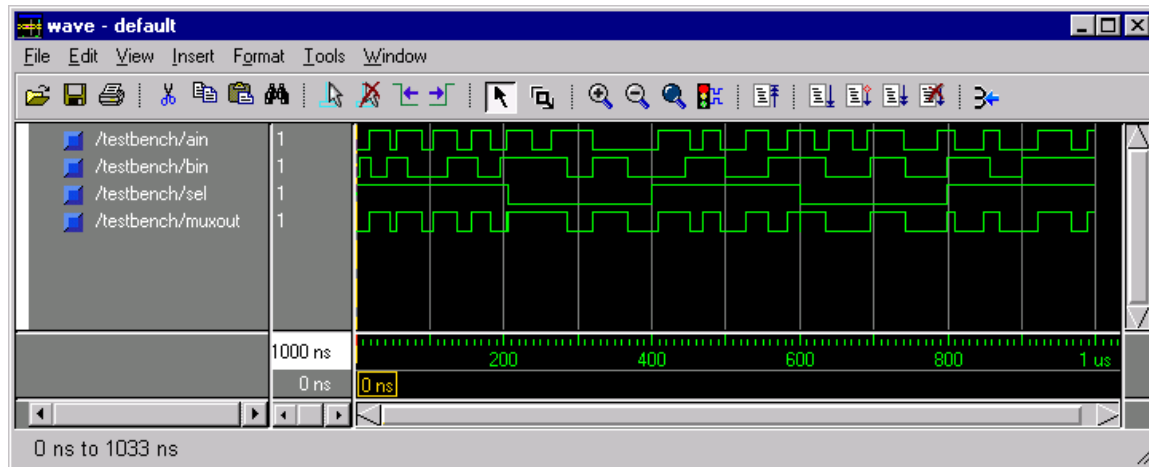

Figure 17 - ModelSim for Actel Wave Window for example1 design
4. When the compilation completes, the simulator will run for 1 us and a Wave window will open to display the simulation results. (Figure 17).